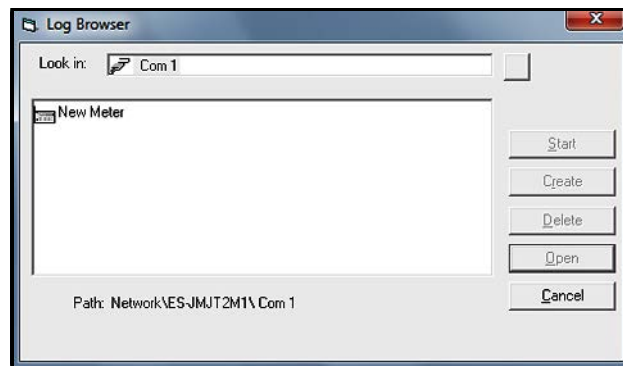

Figure 64: Meter Selection
- b. Double click on the *communication port name* to move to the network level shown in Figure 64 below.